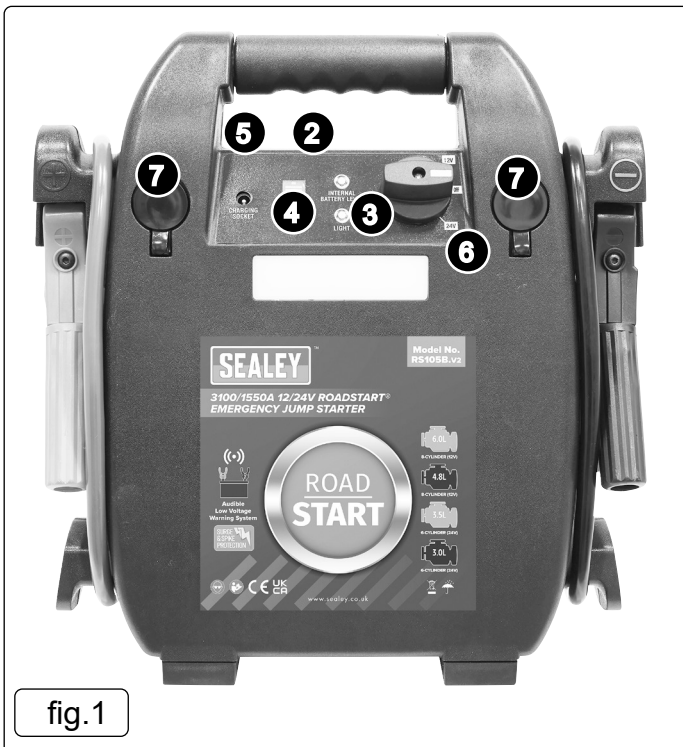

fig.1
4.2. LED MULTI-FUNCTION DISPLAY fig.1/fig.3.